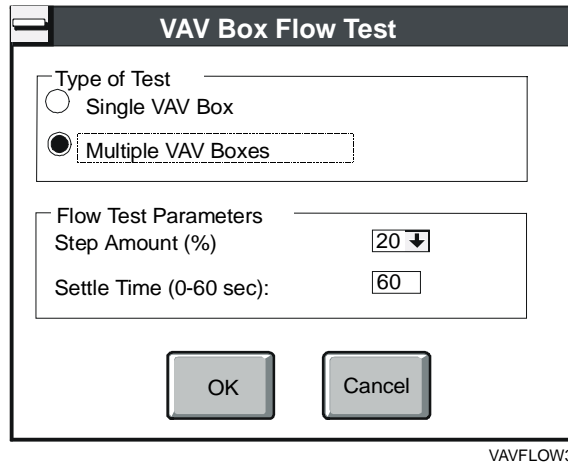

Figure 16-19: OWS - VAV Box Flow Test Dialog Box
1. On the Action menu, click VAV Box Flow Test. The VAV Box Flow Test dialog box appears (Figure 16-19).